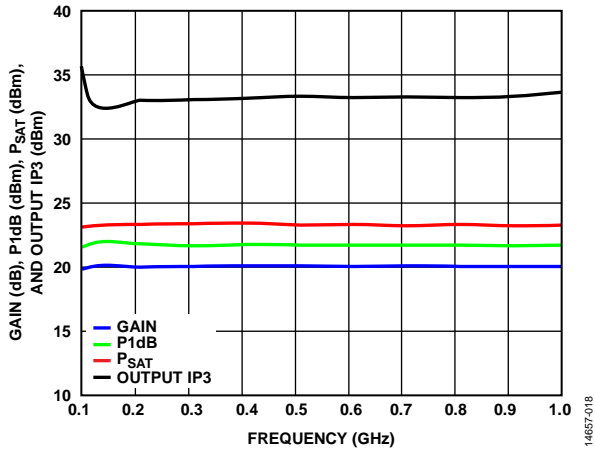
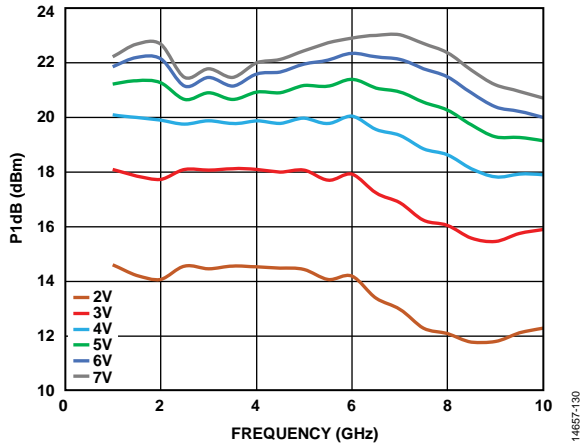
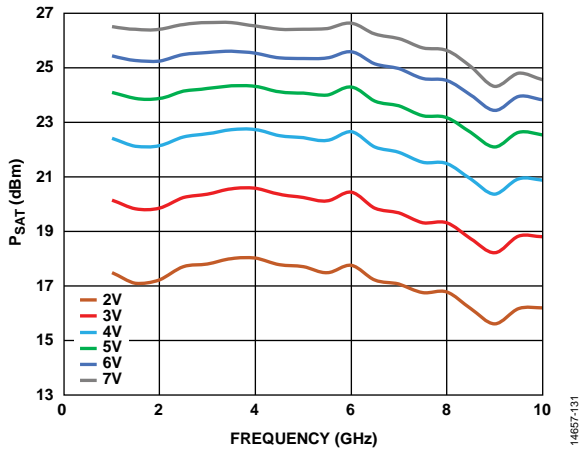

Figure 18. Gain, P1dB, Psat, and Output IP3 vs. Frequency
Figure 30. P1dB vs. Frequency for Various Supply Voltages, $I_{DQ} = 65 \text{ mA}$
Figure 31. P_{SAT} vs. Frequency for Various Supply Voltages, $I_{DQ} = 65 \text{ mA}$
Figure 18, Figure 30, and Figure 31 show that increasing the voltage from 2 V to 7 V typically increases P_{1dB} and P_{SAT} at the expense of power consumption with minor degradation on noise figure (NF).